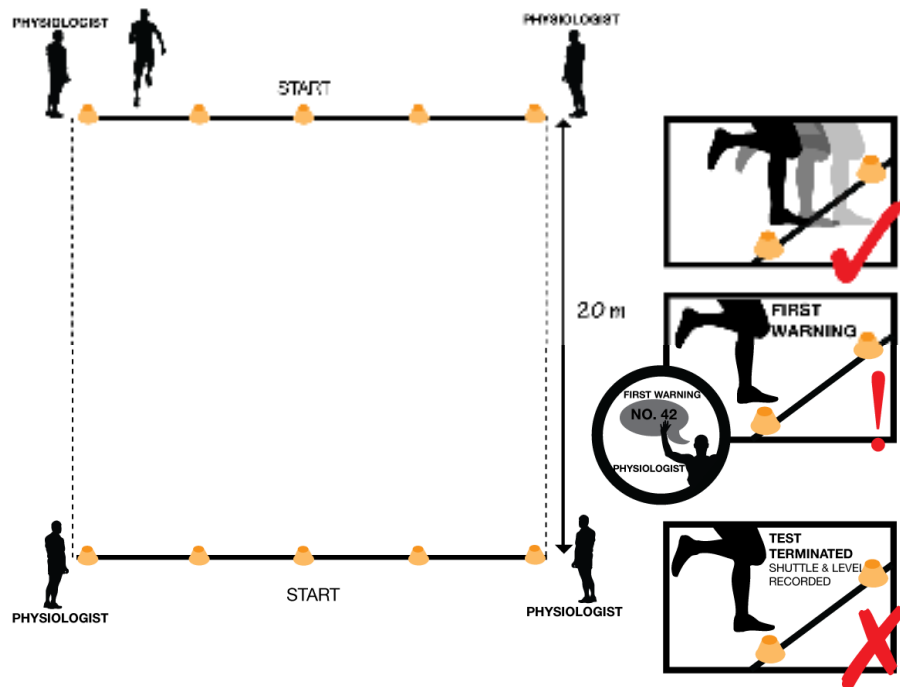

Figure 4 – schematic diagram showing the exclusion criteria for the 20 metre shuttle run test.
- 10) When near exhaustion, players falling short of the 20 m line twice in succession (one warning and a subsequent missed line) have their test terminated and their score recorded) – see Figure 4. The score will be recorded manually by a staff member whom will give it to the test supervisor for data entry.